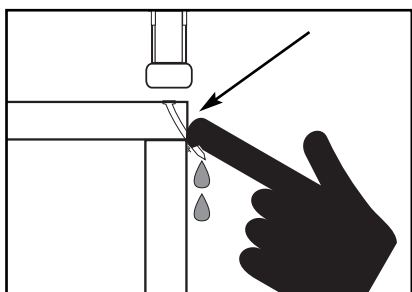

Figure 4. Example of nail deflection.
3. Before pressing the trigger, make sure your free hand is positioned out of the way of a potential path of a nail in case of deflection. (Deflection is caused when grain irregularities, knots or foreign objects inside the wood cause the nail to change its path, resulting in the nail puncturing the surface of the workpiece as shown in **Figure 4.**) Besides damaging your workpiece, deflection can cause injury if your free hand is securing the workpiece in the location that the nail deflects.